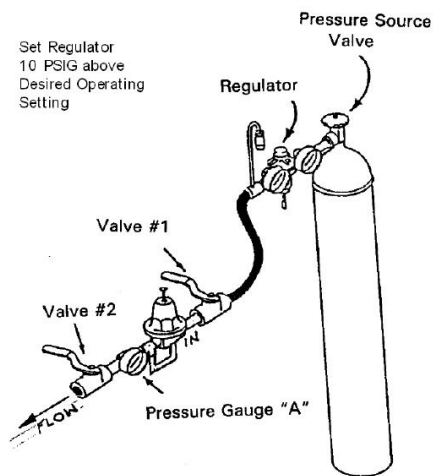

Figure 2 - Combo Regulator
1. Connect the combo regulator to a pressure source as shown in Figure 2.